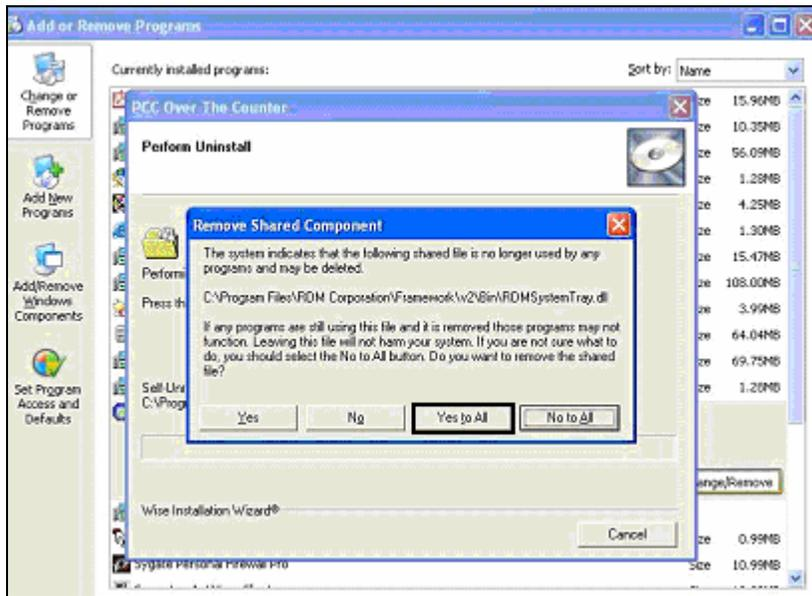

Figure 2.12
4. The uninstall process begins. This may take up to 5 minutes. A prompt may appear asking if you wish to remove a shared component. The uninstall process will inform you that the file is no longer being used by other programs and may be deleted. Click on **'Yes to All'**. (Figure 2.12)